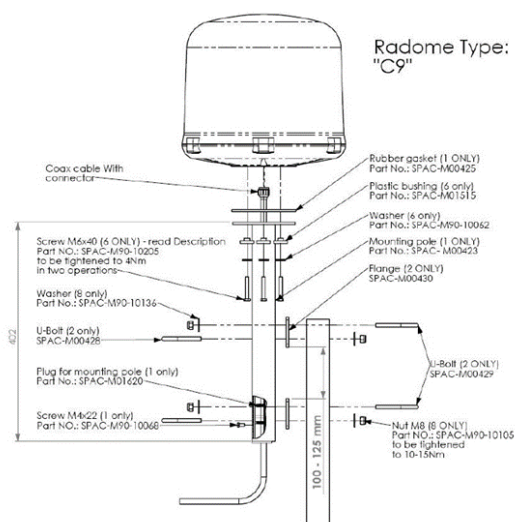

Figure 18 – Maritime Antenna Installation
2. Always install the antenna so clearance between the radome base with drainage holes and mounting surface is no less than 5mm and preferably 10mm, refer to figure 18.
In order to fulfill the above criteria 1. and 2., a set of bolts and washers is defined for each individual installation, refer to figure 18.
the drainage system will only be ensured by following criteria outlined above, refer to figure 18.
Installation of the 3-axis antenna on the mast is done according to figure 18. The diameter of the post shall preferably be between 35 and 50mm using the standard clamp supplied in the kit. Note the TORQUES for